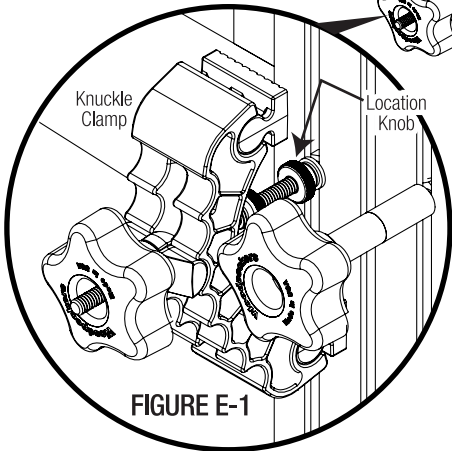

FIGURE E-1
5. Install the Knuckle Clamp in the Super Track slot opposite the Bolt. **FIGURE F.** Secure it in place by tightening the track closest to the track. **FIGURE E-1.**